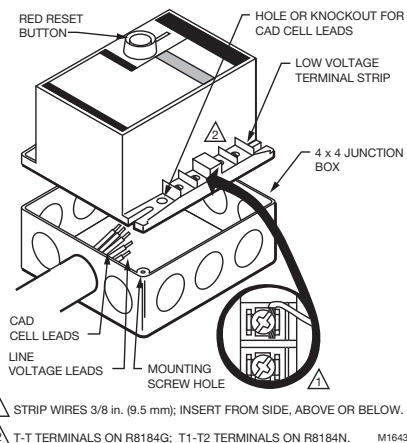

Fig. 1. Wire and mount 130°F (54°C) maximum ambient temperature oil primary control.
1. Mount on a 4 x 4 junction box, directly on the main burner housing or inside the appliance cabinet. See Fig. 1.
4. Thread the line voltage cad cell leads through the hole on the bottom of the low voltage terminal strip. See Fig. 1 or 2.